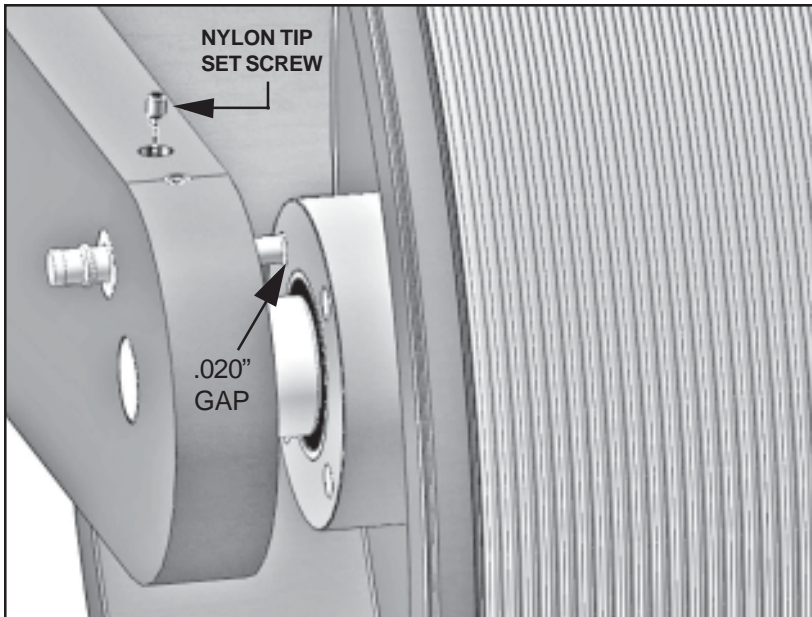

FIGURE 35
1 - To remove or readjust the inductive proximity sensor, you must first ***slightly*** loosen the nylon tip set screw which holds the sensor in position. Using a 5/64" hex driver, turn it approximately 1 revolution in the counter clockwise direction. This set screw can be reached through the access hole in the top of the frame as shown in Figure 35. You do not need to take the set screw completely out of the plastic isolator bushing, so we recommend you just loosen it enough to adjust the sensor. If you take the set screw completely out, it will be somewhat difficult to reinstall.
3 – The Inductive Proximity Sensor has a very short distance sensing range and must be adjusted precisely for proper operation, here is the easiest way to adjust this sensor. Position a 0.020" shim between the face of the sensor and the hub of the print drum as shown in Figure 35. While holding the shim between these two surfaces, turn the sensor Clockwise (CW) until the face of the sensor just pushes the shim into contact with the hub of the print drum. When the sensor is in this position, slightly tighten the nylon tip set screw to prevent the sensor body from turning.